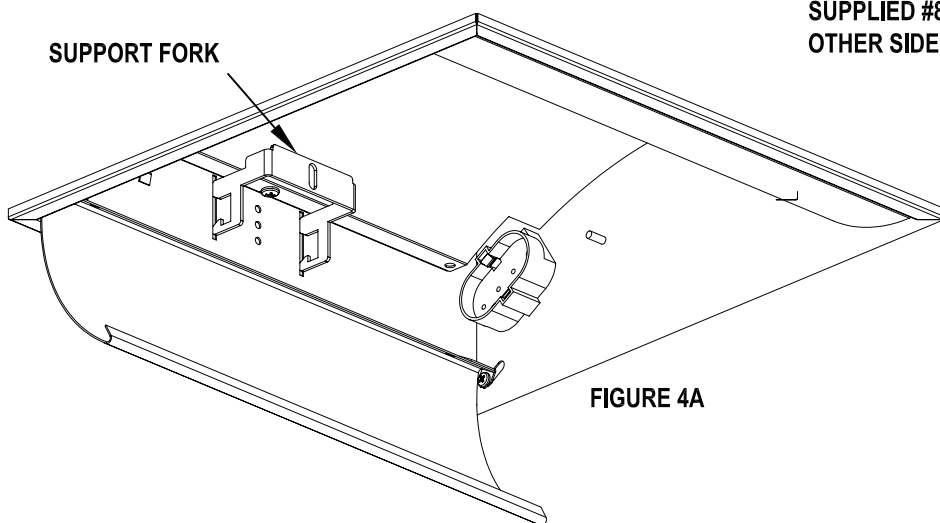

FIGURE 4A
4. INSERT SUPPORT FORK THROUGH SLOTS IN HOUSING, PRESS FORK DOWN UNTIL CONTACT IS MADE WITH DRYWALL CEILING, AND SECURE WITH SUPPLIED #8 SCREW. REPEAT PROCEDURE FOR OTHER SIDE. (FIGURE 4A & 4B)